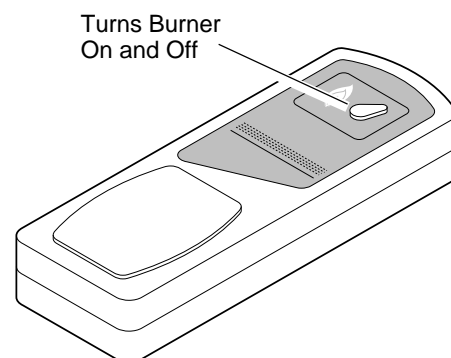

Figure 30 - GHRC Hand-Held Remote Control Unit
- 2a. Press the ON/OFF button to turn the burner on and off (see Figure 30). When turning burner off, the pilot will remain lit.